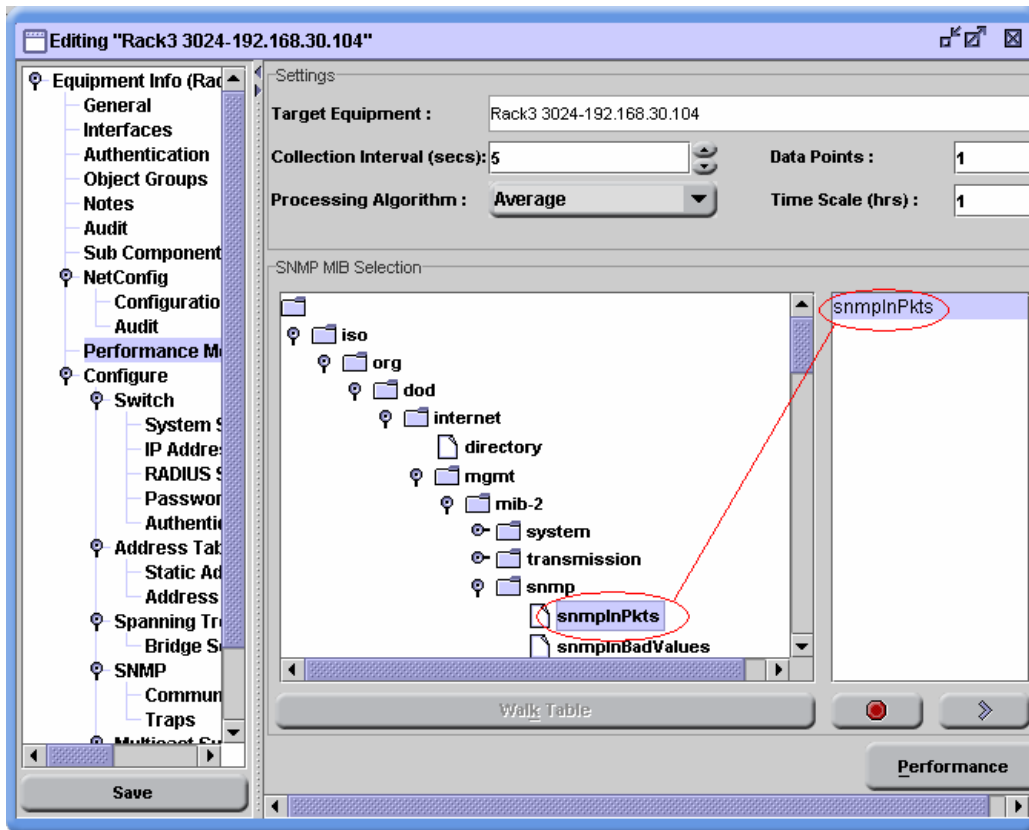

Figure 2. Setting Up Performance Monitor.
6. In the SNMP MIB Selection panel, select the MIB elements from which you would like to collect statistical samples. As you browse through the MIB directory, the elements that can be monitored will appear in the screen on the right when they are highlighted. (See Figure 2).